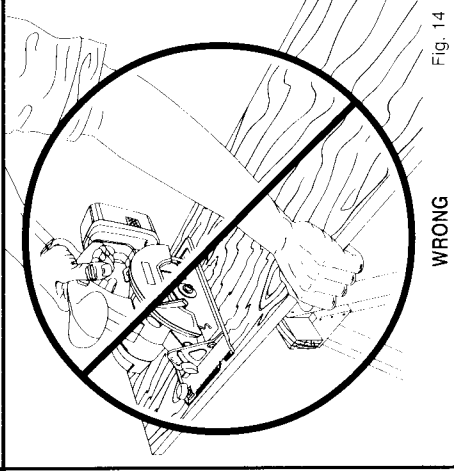

Fig. 14
**Never use your saw as shown in figure 14. Never place your hand on the workpiece behind your saw while making a cut.**